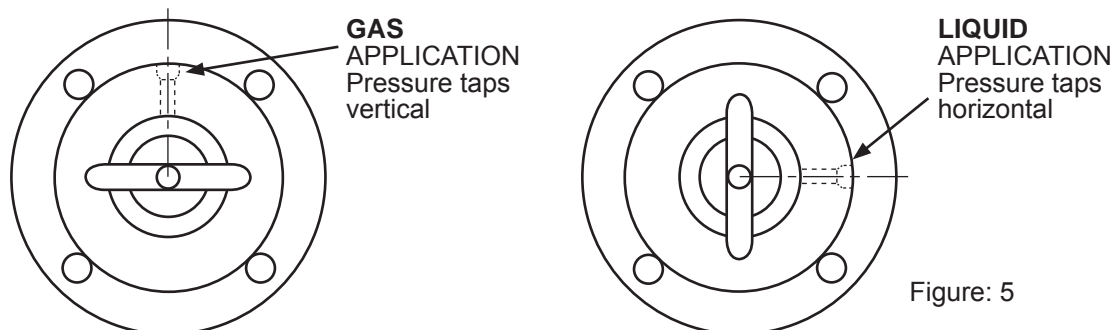

Figure: 5
Orient the mating flange bolt holes to allow clearance for plumbing (gauge lines) to the pressure taps (Figure 5).
Step 3	Set the meter body (or meter body with adapters) and centering rings onto the two lower bolts ( Figure 12 ). The centering rings will support the meter body until all components are installed and secured by the flange bolts. Rotate the meter body to orient the pressure taps as needed ( Figure 5 ). Slide each flange gasket into place - the two lower bolts will keep them from falling.